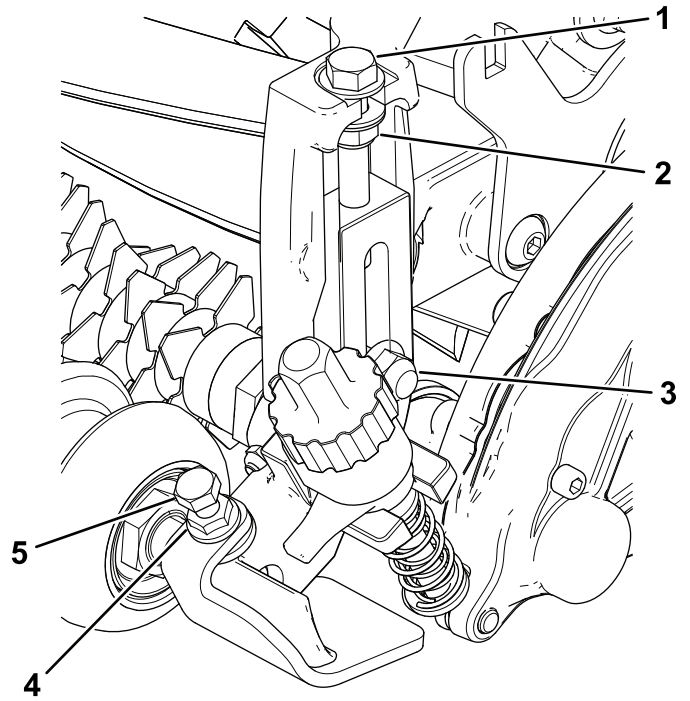

Figure 13
- Tighten the carriage bolts and locknuts securing the HOC bracket assemblies to the side plates (Figure 13).
- Tighten the locknut on the HOC adjuster bolt, then back off the locknut 1/2 turn (Figure 13).
- Center the front roller between the HOC bracket assemblies and lock it in place with the cap screws and flange nuts (Figure 13).